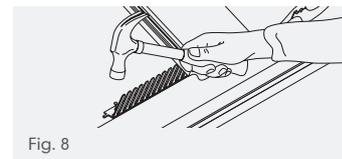

Fig. 8
- Nail comb eaves filler strip to top of fascia board using 45mm x 3.35mm (10mm OFV) or 60mm x 3.35mm (25mm OFV) aluminium nails at every nail hole position (Fig 8).